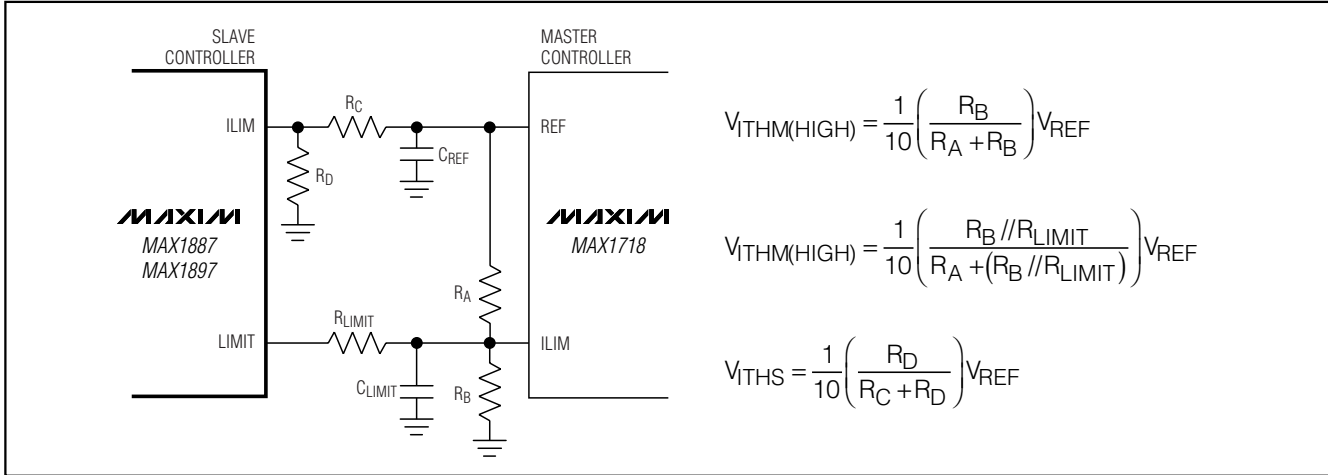

Figure 5. Setting the Adjustable Current Limits
where V_{ITHM} , the master's current-limit threshold, is typically 1/10th the voltage seen at the master's ILIM input ($V_{ITHM} = 0.1 \times V_{LIM(MASTER)}$, see the master controller's data sheet). Connect a resistive voltage-divider from the master controller's internal reference to GND, with the master's ILIM input connected to the center tap (Figure 5). Use 1% tolerance resistors in the divider with 10µA to 20µA DC bias current to prevent significant errors due to the ILIM pin's input current:
where V_{ITHS} , the slave's current-limit threshold, is precisely one-tenth the voltage seen at the slave's ILIM input ($V_{ITHS} = 0.1 \times V_{LIM(SLAVE)}$). Connect a second resistive voltage-divider from the master controller's internal reference to GND, with the slave's ILIM input connected to the center tap (Figure 5). The external adjustment range of 400mV to 1.5V corresponds to a
Now select the resistive-divider values (R_A and R_B in Figure 5) to set the appropriate voltage at the master's ILIM input:
Select the resistive-divider values (R_C and R_D in Figure 5) to set the appropriate voltage at the slave's ILIM input:
- 4) Determine R_{LIMIT} (Figure 5) from the above equation: